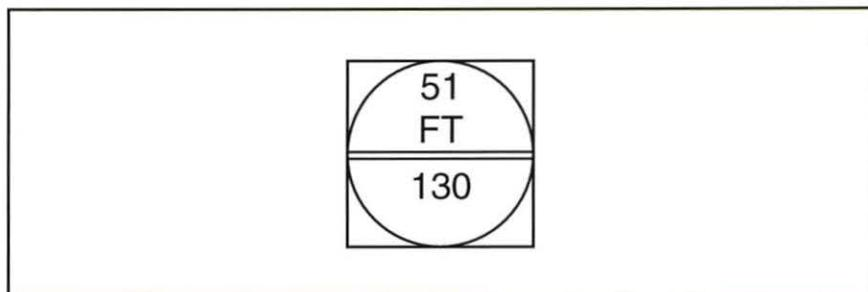

Figure 84. Instrument Tag
- 11. Perform the following substeps to interpret the information on the instrument tag in figure 84.
- A. Determine the type of device indicated by the tag in figure 84.
- B. Determine where the device indicated by the tag in figure 84 is located.
- D. Determine what the device indicated by the tag in figure 84 is measuring.
- E. Determine the loop in which the device is located, according to the tag in figure 84.
- F. Determine the area in which the device is located, according to the tag in figure 84.
- G. Determine the first modifier of the device tag in figure 84.